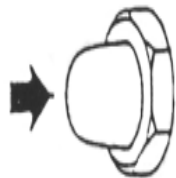

Figure 66. Emergency Stop Button
1. To stop the engine in the event of an emergency, **PUSH** the emergency stop button (Figure 66) inward. This button is located on the generator's engine operating panel, see page 30, Figure 10.